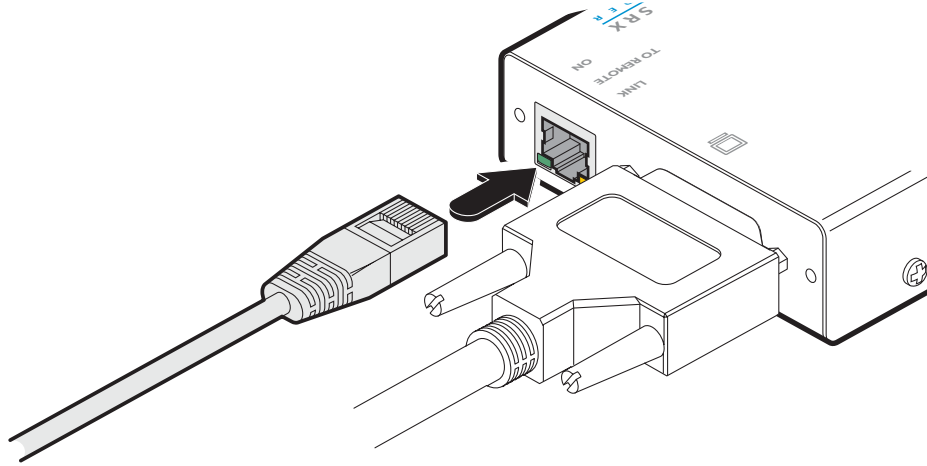

Figure 3-7. Attaching the CATx link cable
- 1 Connect the link cable (see Overview page for cable advice) to the local module socket labeled **TO REMOTE** as shown in Figure 3-7: